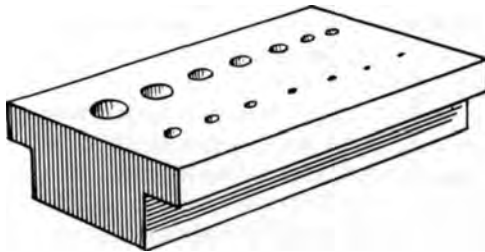

Fig. 12. Graduated stake.
**Graduated Stake.** (Fig. 12). This is a flat steel block, hardened